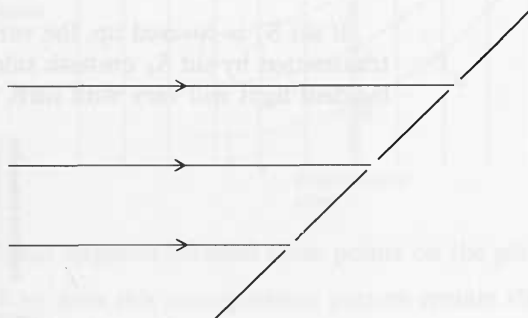

Figure J129
- d** A third order diffracted beam can be produced by tilting the grating so that the incident beam is no longer normal to the grating. Copy and complete figure J129, and add whatever further written explanation is necessary to explain how the tilted grating can produce a third order diffracted beam.